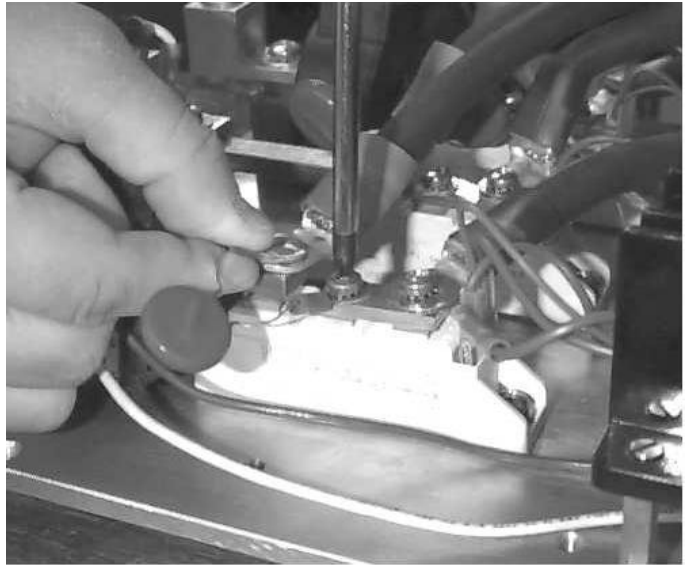

Figure 12. Removing the MOVs and bus bars from an SCR to be replaced.
1. Loosen the screws holding the MOVs and bus bars to the SCR Module to be replaced, as illustrated in Figure 12, and remove the MOVs and bus bars.